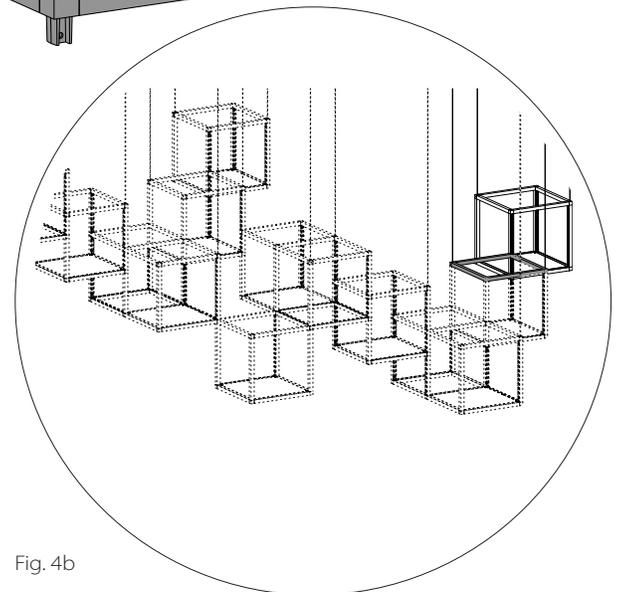

Fig. 4b
- 13c. Section as part of whole assembly shown in Fig. 4b.